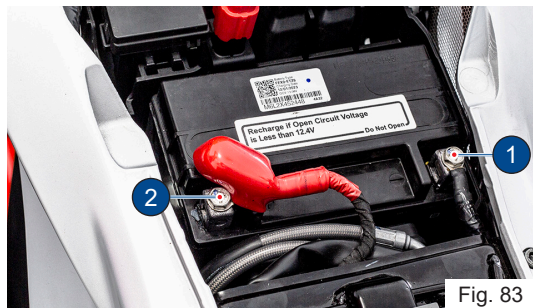

Fig. 83
- Disconnect the negative terminal (1) first followed by the positive terminal (2) (ref. Fig. 83). Carefully take out the battery.